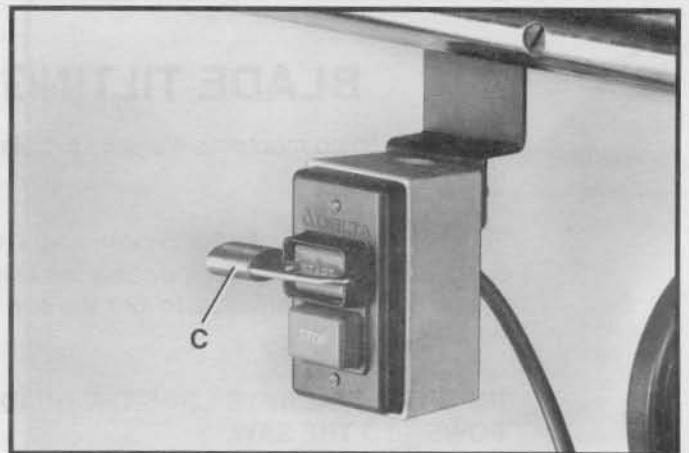

Fig. 44
**IMPORTANT:** We suggest that when the saw is not in use, the switch be locked in the "OFF" position using a padlock (C) Fig. 44, through the switch plate and start button as shown.